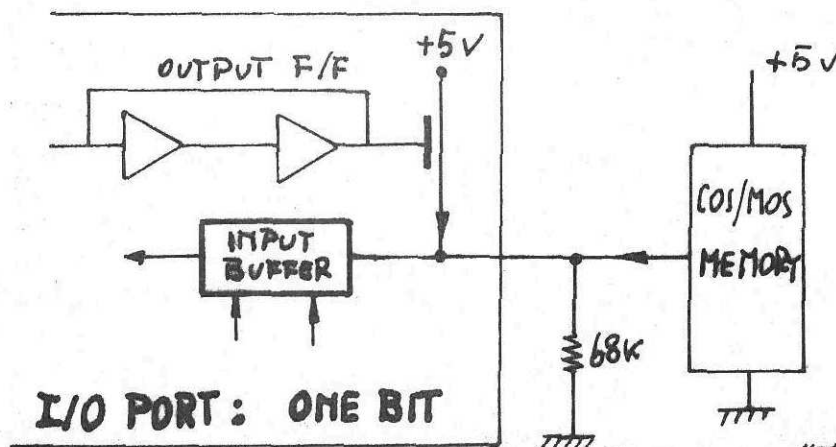

Fig.43B - TYPICAL I/O BIT INTERCONNECTION
- 6 - Every I/O bit of the M33 microcomputer is connected to the COS-MOS device by the circuit shown in Fig.43B.